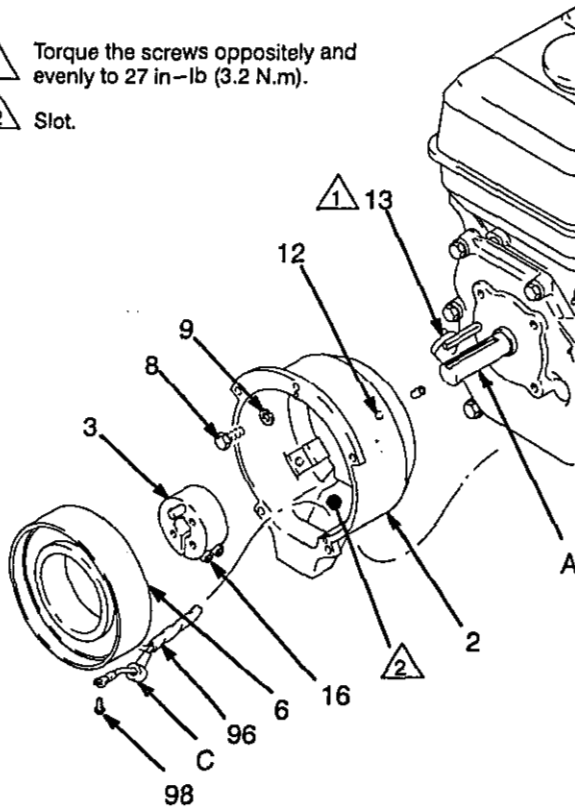

Fig. 19
1. Install the **clutch housing (2)**, capscrews (8) and lockwashers (9) on the engine. See Fig. 19.
2. Install the engine shaft **key (13)**. See Fig. 19.
4. Install the **field (6)** in the clutch housing (2). Working through the slot in the clutch housing, connect the wires of the harness (96) to the screws (98) in both places on the field (wires can be attached to either connection). Pull the plastic caps (C) up and snap them over the screws. With the setscrew holes in the field and the clutch housing (2) aligned, tighten the setscrews (12) oppositely and evenly, to 27 in-lb (3.2 N.m). See Fig. 19.